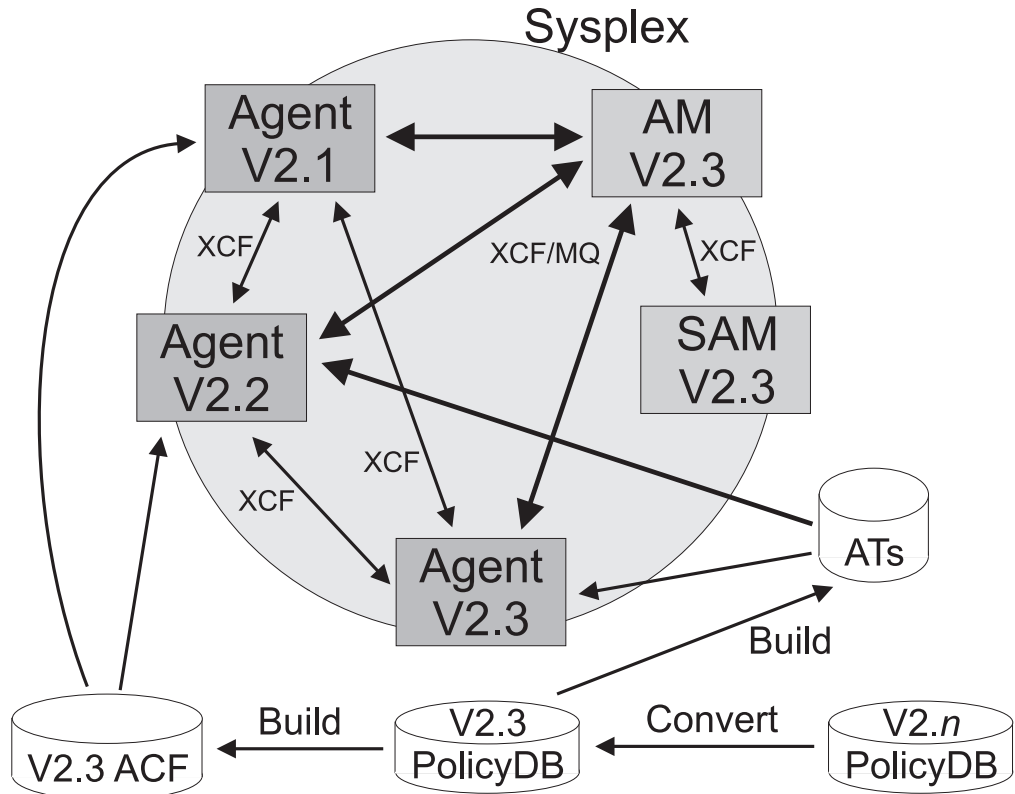

Figure 27. Coexistence of SA OS/390 1.3, SA OS/390 2.1, and SA OS/390 2.2
- SA z/OS 2.3 systems can coexist with SA OS/390 2.1 and SA OS/390 2.2 systems within the same sysplex. Figure 27 illustrates this: It shows a sysplex with three automated systems and a separate automation manager (and its secondary).